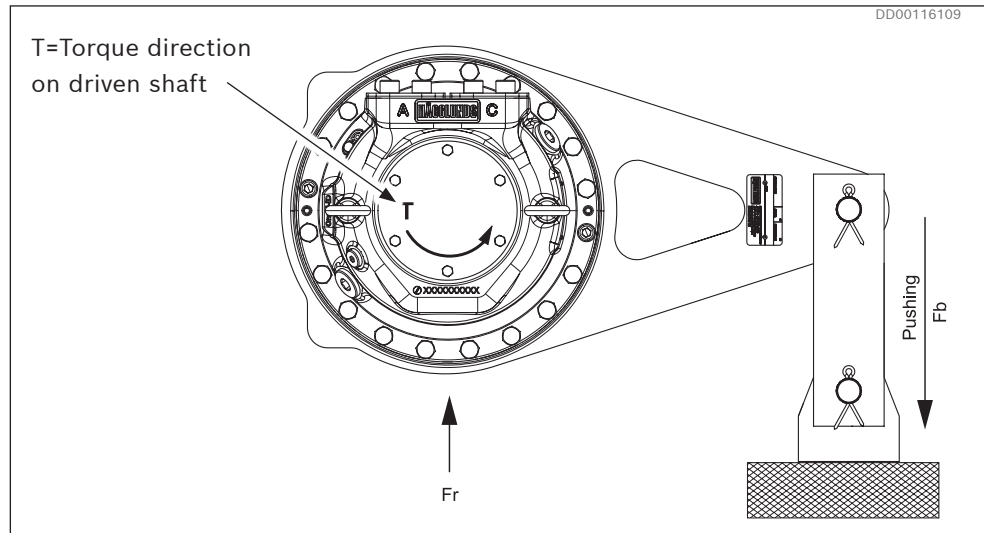

Fig. 15: External forces Fr, Fb for TC A
The torque arm shall be fitted to the motor before the motor is mounted on the driven shaft. Make sure that the foundation can withstand the forces from the torque arm (see *Fig. 15 and Table 8*). See also data sheet RE 15355.
- ▶ Make sure the foundation and the customer machine can withstand the forces from the torque arm. See *Fig. 15 and Table 8*.